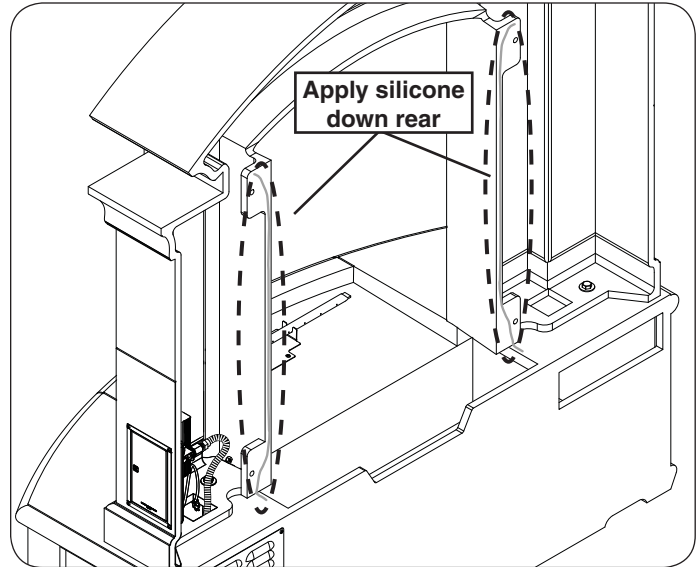

Fig. 22-1 Silicone rear of top piece
1. Apply a bead of silicone (100% clear sealant) down along the rear of the top piece as shown in Fig. 22-1.